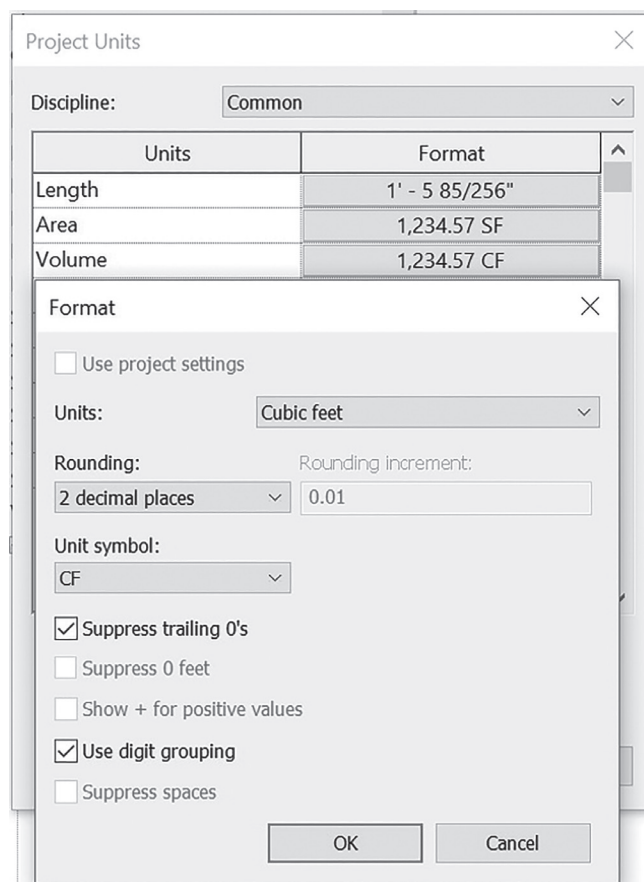

Figure 5: Image illustrating proper “Volume” units
- Click the button under the “Format” heading for “Volume” and set up as follows. See figure 5.